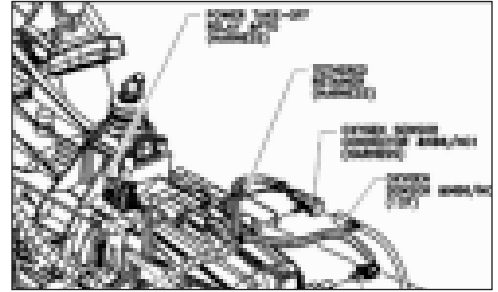

Fig. 20
22. On the right side of the transmission is a bracket for the oxygen sensor wiring harness (for California vehicle w/8.1L engines). This bracket is on all vehicles and may interfere with the hydraulic tubes. If the oxygen sensor wiring harness is on the vehicle, bend the bracket in towards the center of the transmission. If the vehicle has only the bracket, the bracket may be removed and the bolt torqued to 17 Lbs. ft. [23 N.m]. Do not apply sealant to bolt (Fig. 20).